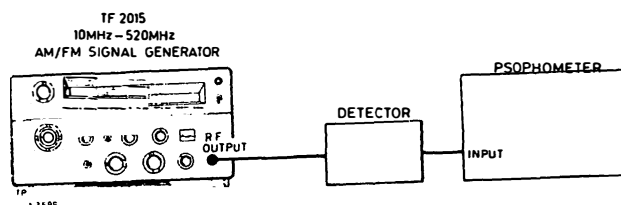

Fig. 4.9 Test gear arrangement to check spurious a.m. on c.w. and a.m. on f.m.
1. Connect the test equipment as shown in Fig. 4.9. Then with the FUNCTION selector at CW, the CARRIER switch at ON and TF 2015 tuned to 100 MHz check that the pointer of the MOD/CARRIER meter is within the white box.
1. With the test equipment connected as in Fig. 4.9 repeat 4.6.17 (1) and (2)